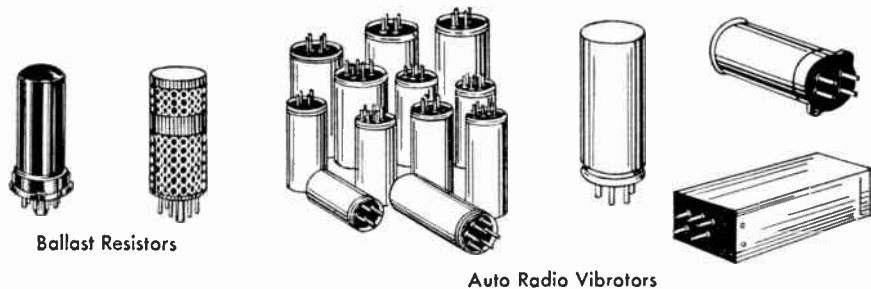

Fig. 2. These parts look a little like tubes, but are easy to recognize
**Other Plug-in Parts.** A metal plug-in unit is not always a tube. For example, the ballast resistors used in some of the older a-c/d-c sets to reduce line voltage look exactly like metal tubes, yet they are only resistors mounted in metal housings. They can be distinguished from tubes by the type numbers, which are considerably different from tube numbers. Some of these ballast numbers are 100-70, L4OCT, BK-10-A, M-23-D, and 10-23A. Ballast resistors have no vacuum, and some types even have holes in the metal housing for ventilation. In Fig. 2 there are examples of ballast resistors.
Vibrators in automobile radios look like metal tubes but are larger and usually have a bright aluminum housing, as also shown in Fig. 2. They will be easy to recognize, as they are the only tube-like parts that hum loudly when working.